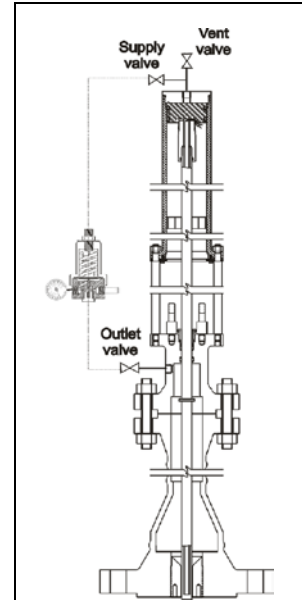

Figure 6
- 2.4.5 Connect the cylinder valve assembly to the flange valve assembly (see Figure 6).
- 2.4.9 When the shaft's lock collar protrudes from the cylinder, carefully guide it over the lock collar studs (see Figure 6) and tighten the lock collar bolts on the studs in order to hold the lock collar in place. The insertion shaft is now inserted into the pipeline at the appropriate length.